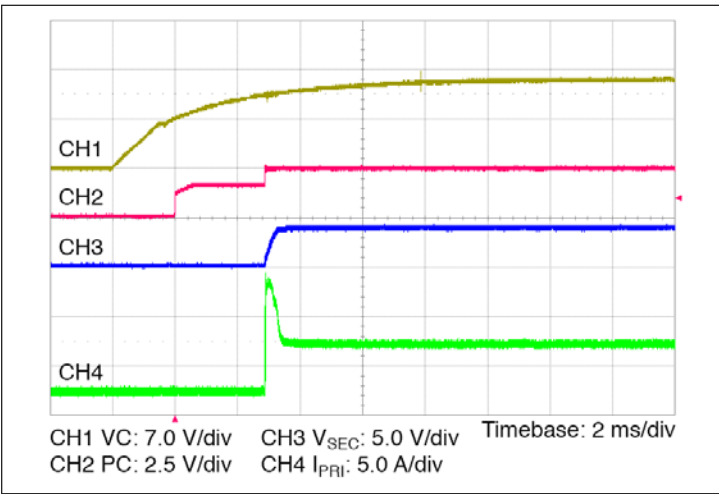

Figure 11 — Start up from application of VC;
- Stand-alone operation (VC applied after VPR1): In this case the VTM secondary will begin to rise upon the application of the VC voltage (See Figure 11). The Adaptive Soft Start Circuit (See Section 11) may vary the secondary voltage rate of rise in order to limit the inrush current to its maximum level. When starting into high capacitance, or a short, the secondary current will be limited for a maximum of 1200 µsec. After this period, the Adaptive Soft Start Circuit will time out and the VTM module may shut down. No restart will be attempted until VC is re-applied or PC is toggled. The maximum secondary capacitance is limited to 1000 µF in this mode of operation to ensure a successful start.